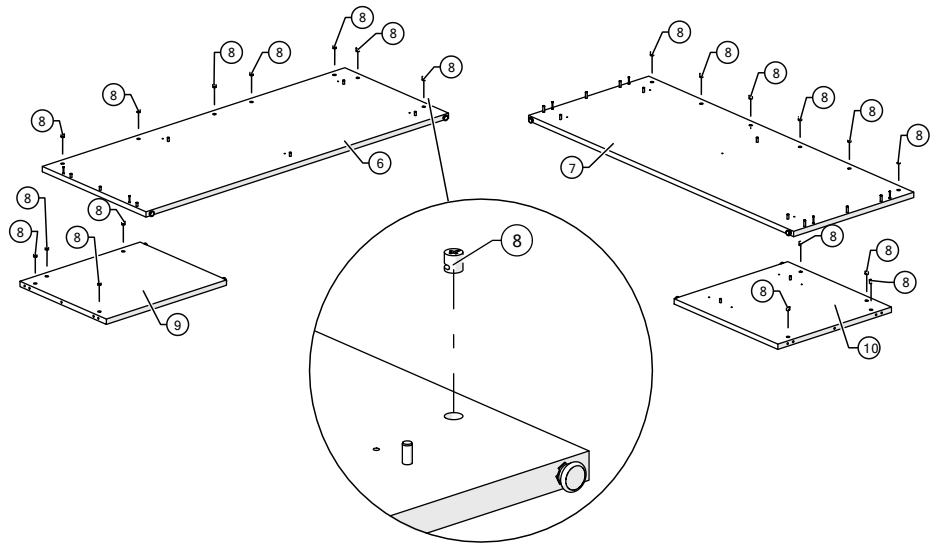

Figure 7
7. Place Cams into the holes of the modesty LH, modesty RH, gable LH, and gable RH; make sure that the arrow on the face of the connector points toward the laminate board (Figure 7).